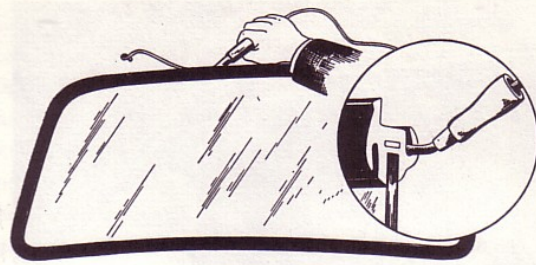

Fig. 40. Placing cord in rubber strip.
2. Fit a cord (preferably terylene, 5 mm =  $\frac{3}{16}$ "") in the groove of the rubber strip for the sheet metal edge, beginning at the top centre as shown in Fig. 40.